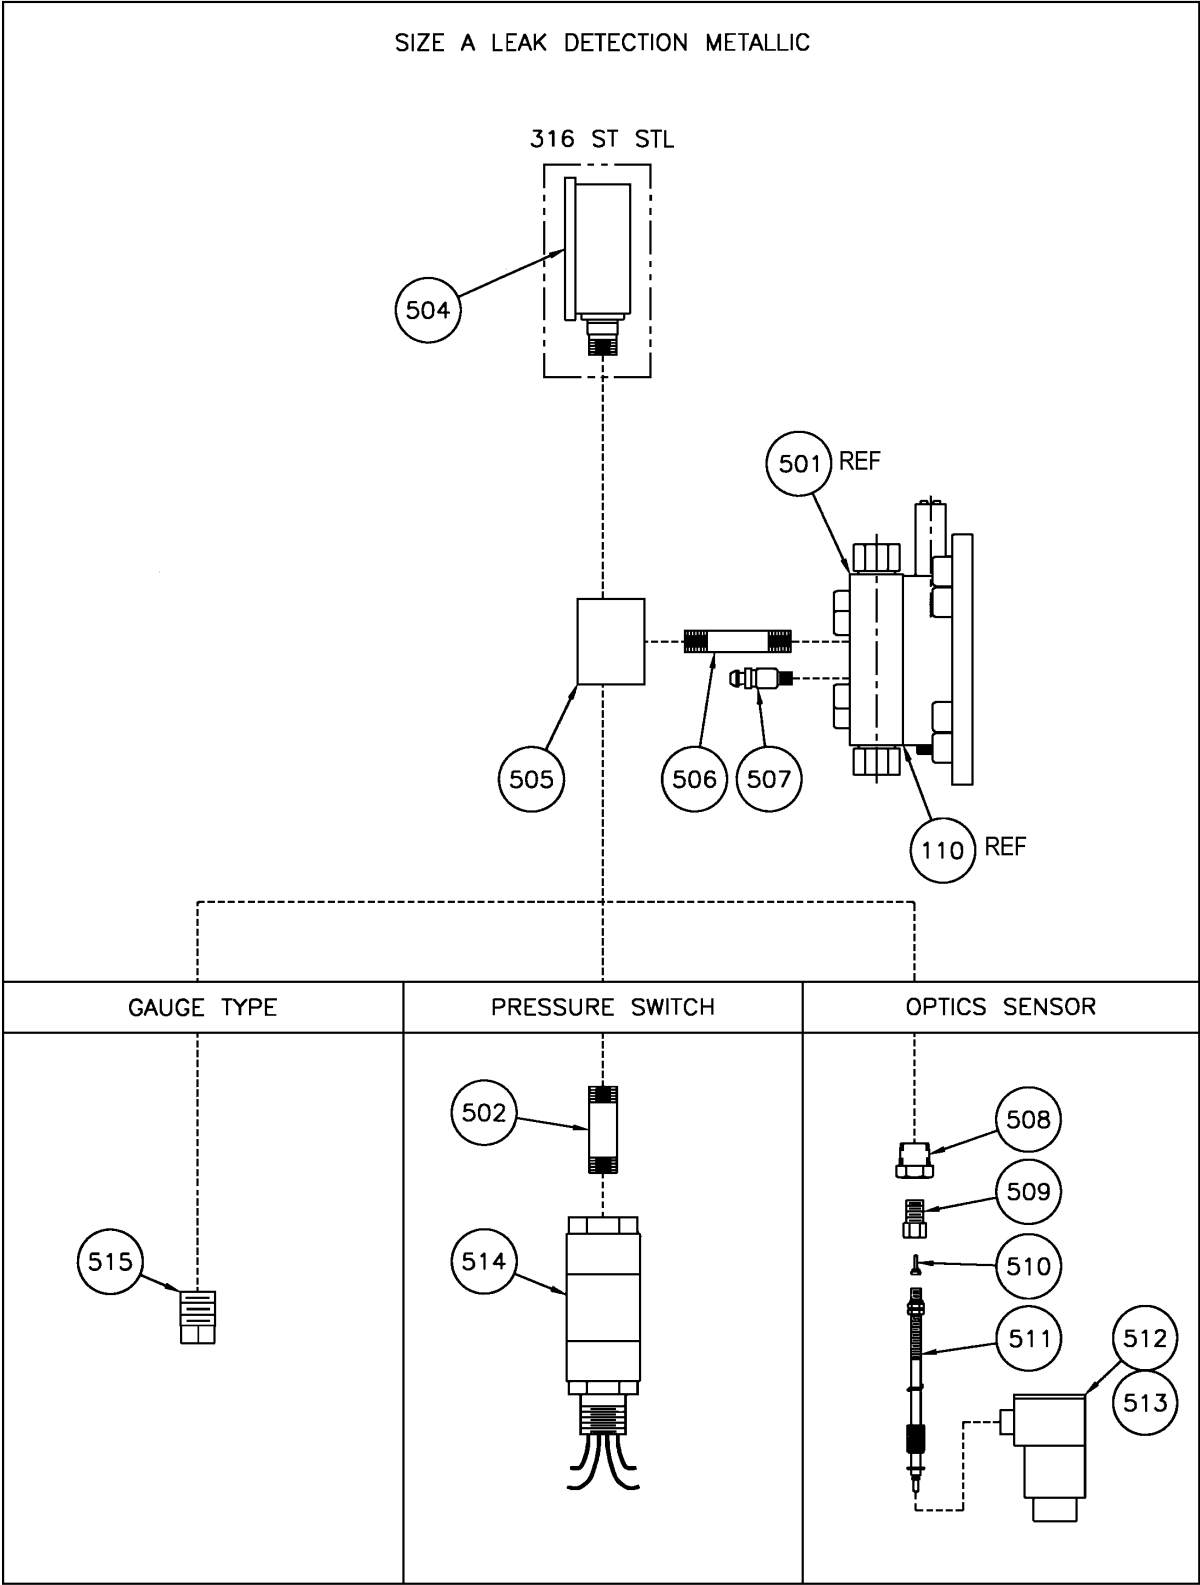

Figure 41. Metallic Leak Detection, Size A.
6.6 METALLIC LEAK DETECTION, SIZE A (316SS, ALLOY 20 & HAST C) (FIGURE 41)